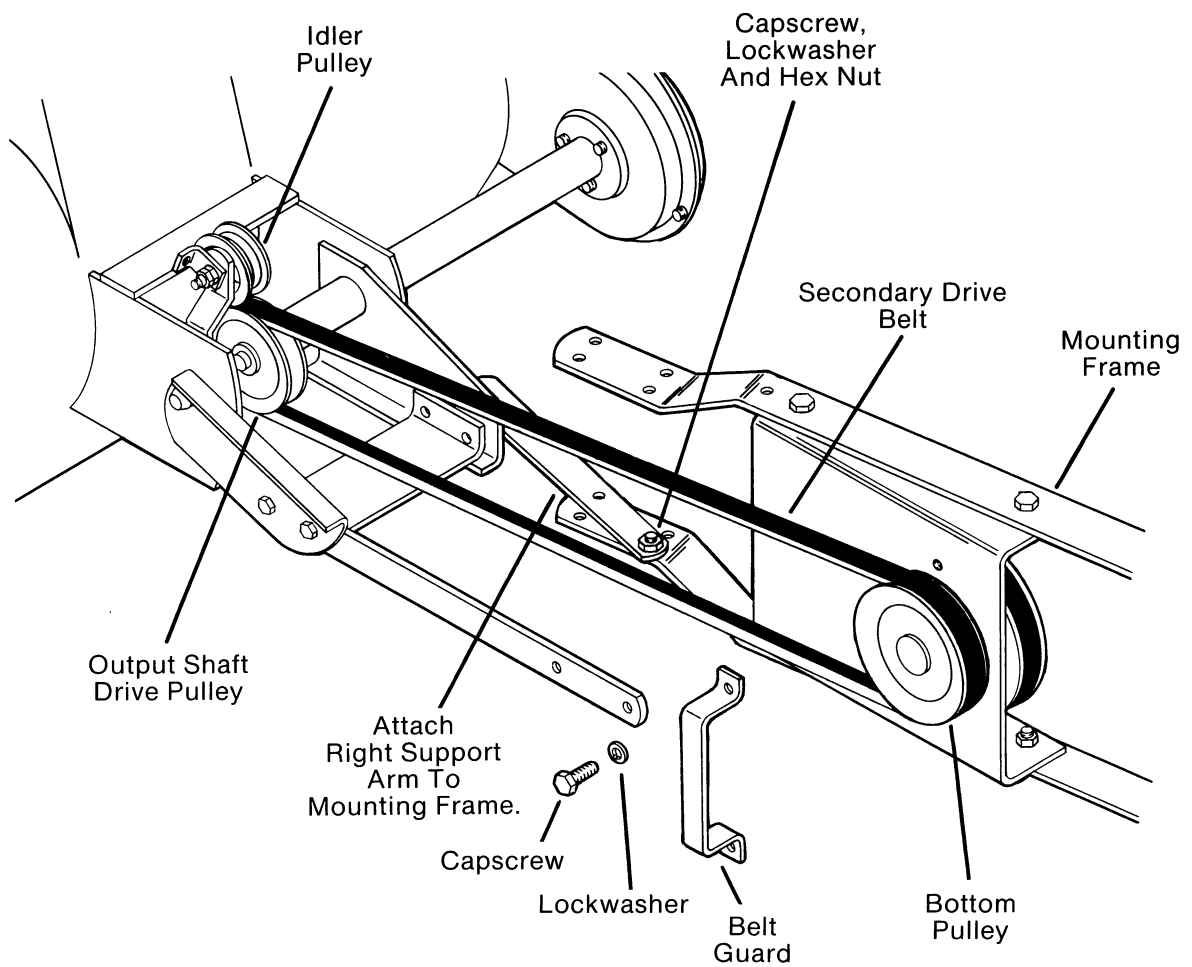

FIG. 3
B. Attach right support arm to right side of mounting frame (Fig. 3) using a capscrew, lockwasher and hex nut. **DO NOT TIGHTEN AT THIS TIME.**
C. Tip and hold mounting frame on its right side and remove belt guard from bottom pulley. (Fig. 3)
- D. Slip secondary drive belt around pulley and replace belt guard (Fig. 3). NOTE: There should be no twists or turns in the belt. Also be certain idler pulley is above belt as shown. Lay frame down again behind snow thrower and check belt. Belt should run from top of output shaft drive pulley on snow thrower to left side of bottom pulley on mounting frame.